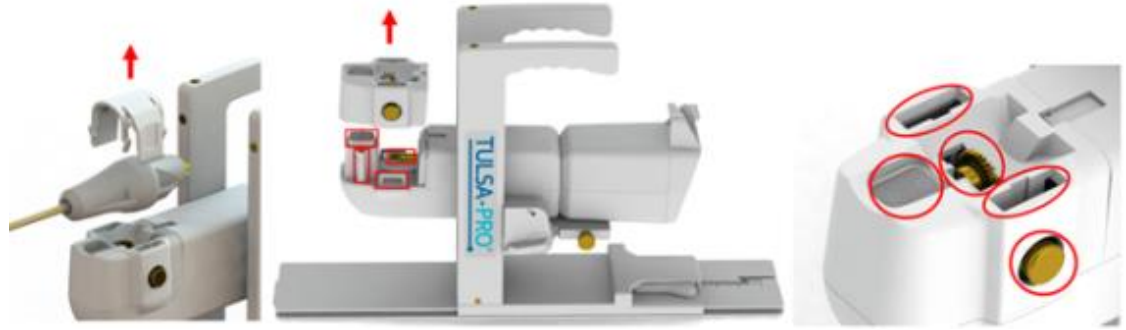

Figure 60: Inspecting the Positioning System
- c. Repeat steps 1 and 2 as necessary until no visible soiling remains, closely inspecting the areas around the gripper and gear (*Figure 60*).